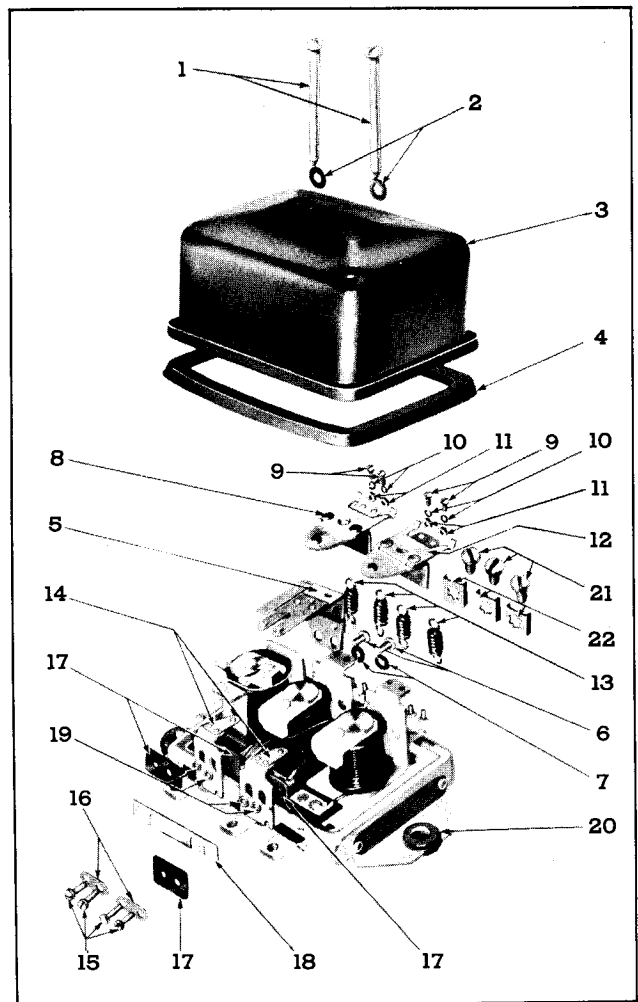

Fig. 13—Typical Current and Voltage Regulator Details and Relative Location of Parts.
3. Reconnect the "F" terminal lead, remove the regulator cover (3), Fig. 13, and depress the voltage regulator armature (12) manually to open the points.